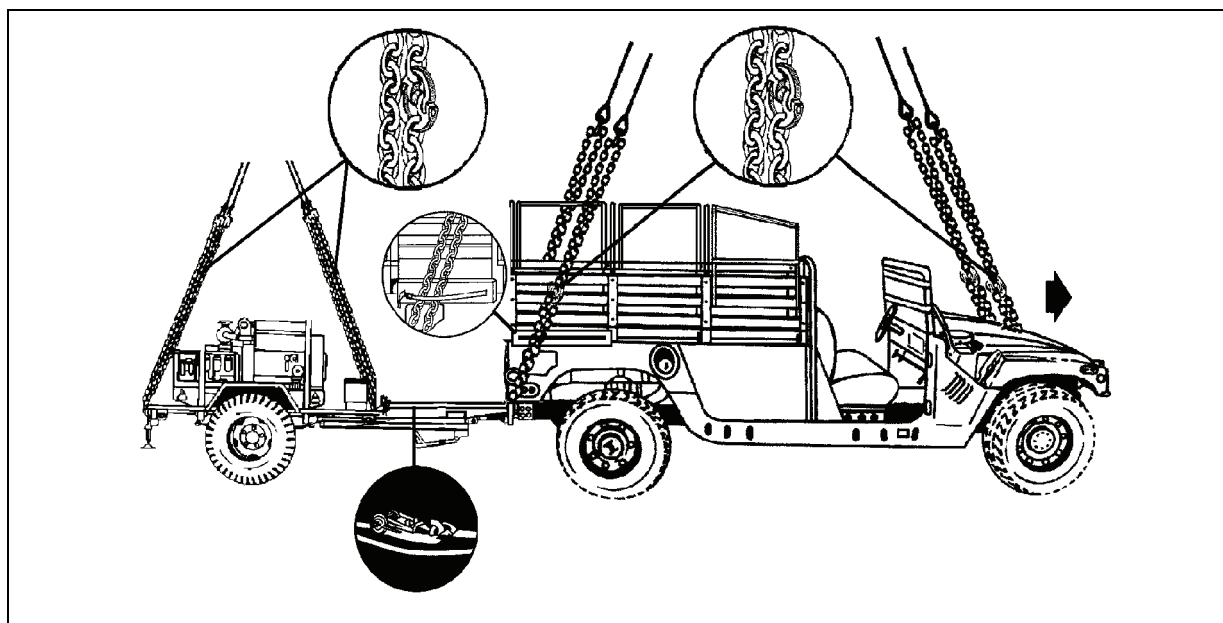

Figure 5-25. M1097A2 with Advanced Field Artillery Tactical Data System Soft Top Installation Kit and PU-797 Generator Set on M116A3 Trailer
- **Rigging.** Rig the load according to the steps in Figure 5-25.